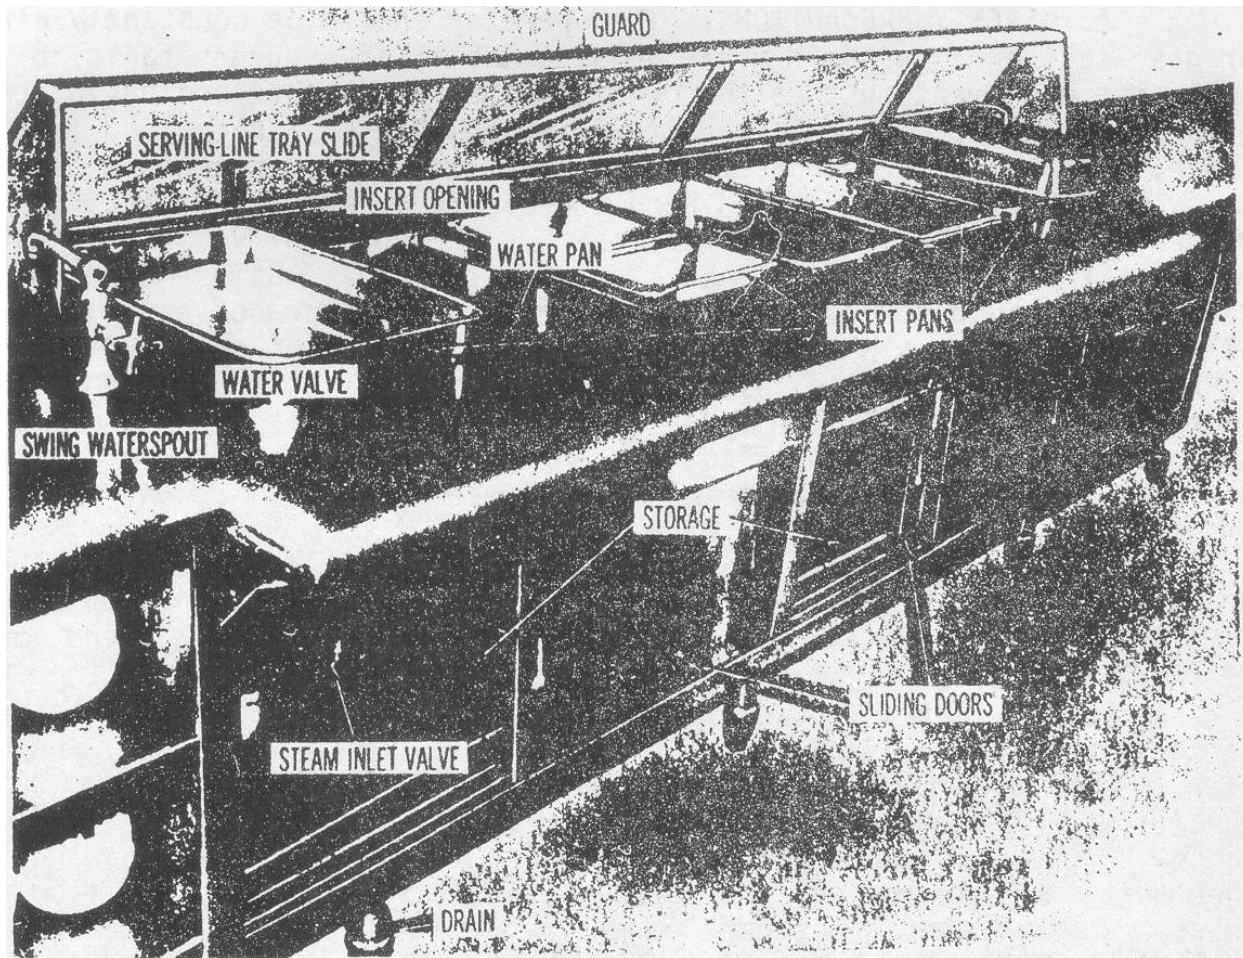

Figure 20. Steamtable installed in serving line.
b. **STEAMTABLE.** The steamtable (fig. 20) provides four to six openings for the insert pans. When pans are inserted in all openings, the water pan is completely covered. Steam, trapped between the water level and the bottoms of the pans, keeps food warm during the serving period. A glass-and-steel guard is installed between the steamtable openings and the tray slide to minimize exposure of food to personnel moving through the serving line.